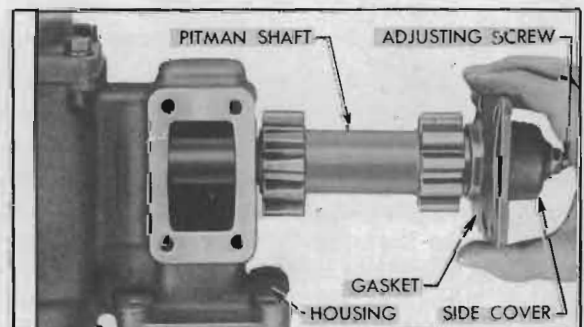

Figure 7-23—Removing Pitman Shaft and Side Cover
9. Turn steering shaft counterclockwise to move the ball nut to approximate center position, then remove the gear housing side cover and gasket with pitman shaft attached by the adjusting screw. See figure 7-23.